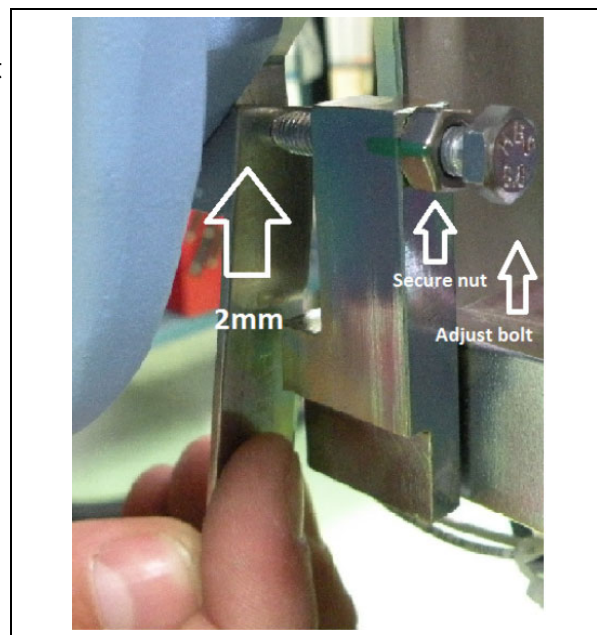

Figure 7
- (4) Place the 2mm gauge between the handle of the mobile unit and the adjust bolt as shown in figure 7.
- (5) Adjust the bolt so that it has contact with the 2mm gauge.
- (6) Secure the adjust bolt by tightening the secure nut.